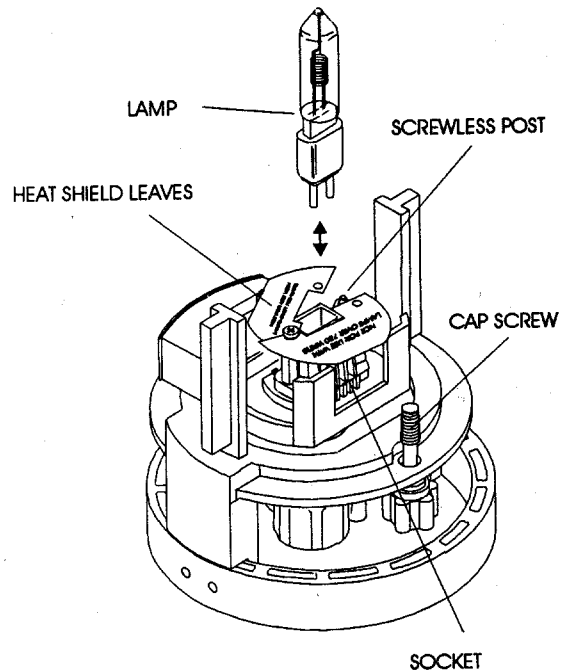

Figure 1
■ INSTALLING THE LAMP Figure 1